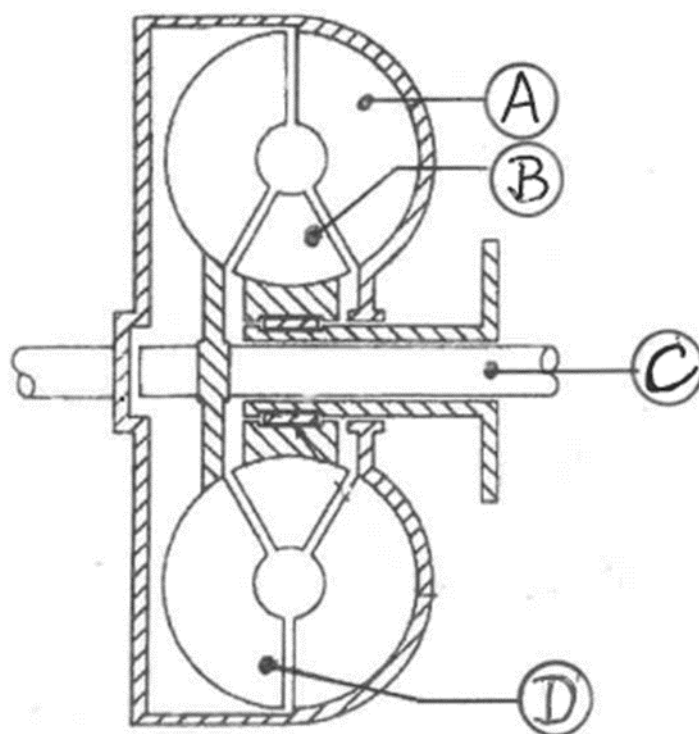

FIGURE 2
3.4 FIGURE 2 below shows the parts of an internal combustion engine.